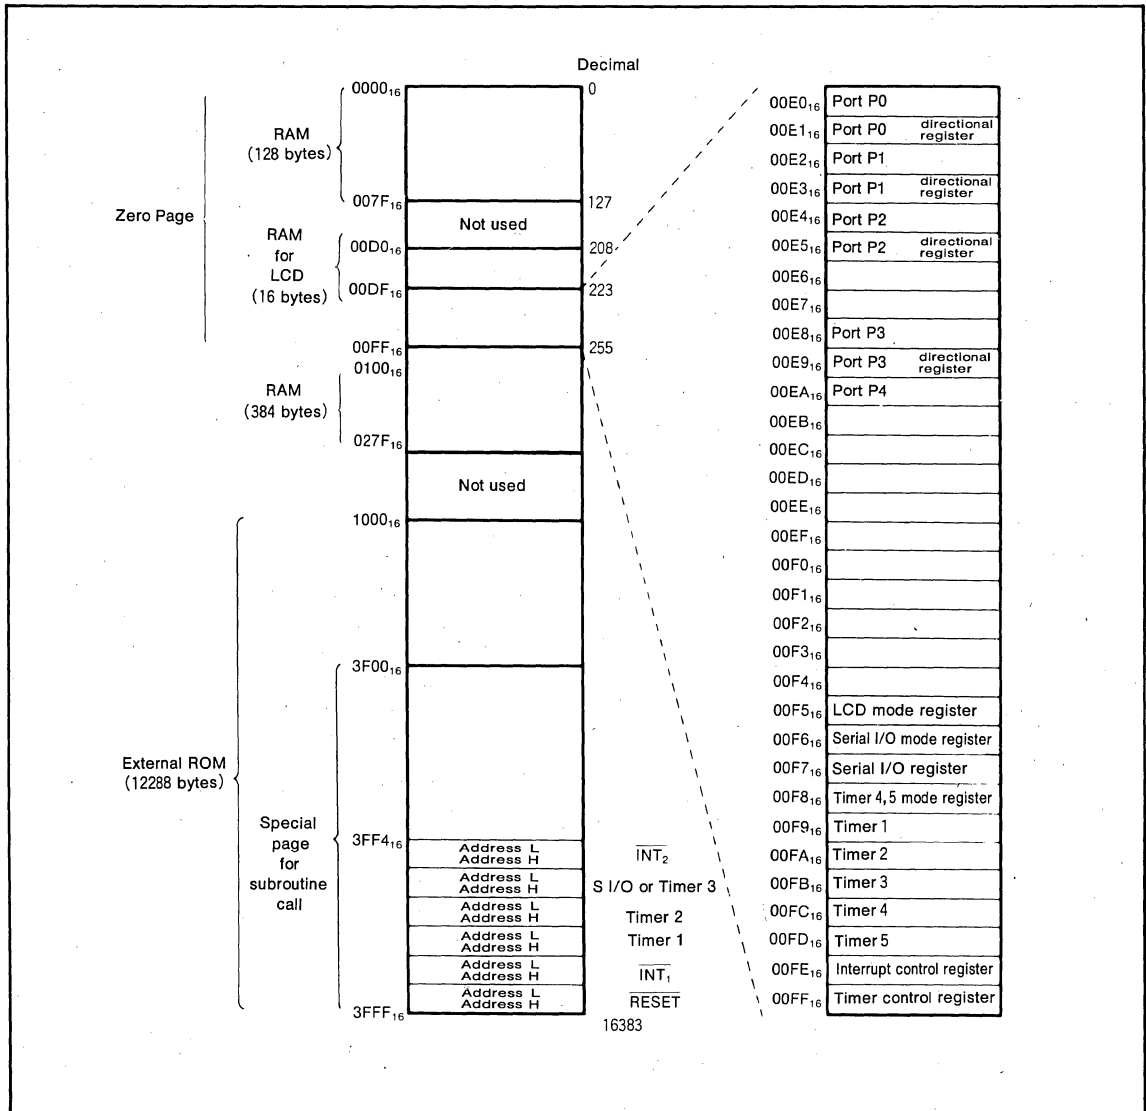

Fig.1 Memory map.
The memory map is shown in Figure 1. The M50931-PGYS is mounted an EPROM instead of an internal ROM. The address of an EPROM is from 100016 to 3FFF16, and this memory size is 12288 bytes. The memory size of a RAM is 512 bytes as same as the M50931-XXXFP or the M50932-XXXFP has.
(1) In case of the MBM27C64-20, the MBM27C64-25, or the MBM27C128-25 EPROM use the following areas (refer to Figure 1):